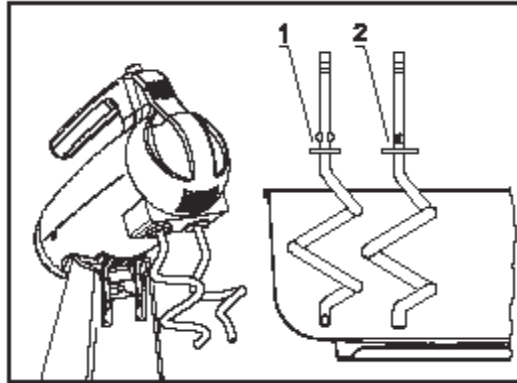

Figure 9: Removing Beaters and Dough Hooks from the Mixer Head.
2. Push the ejector button located beside the handle to remove beaters or dough hooks. Figure 9 and Figure 1 may be used for further clarification.